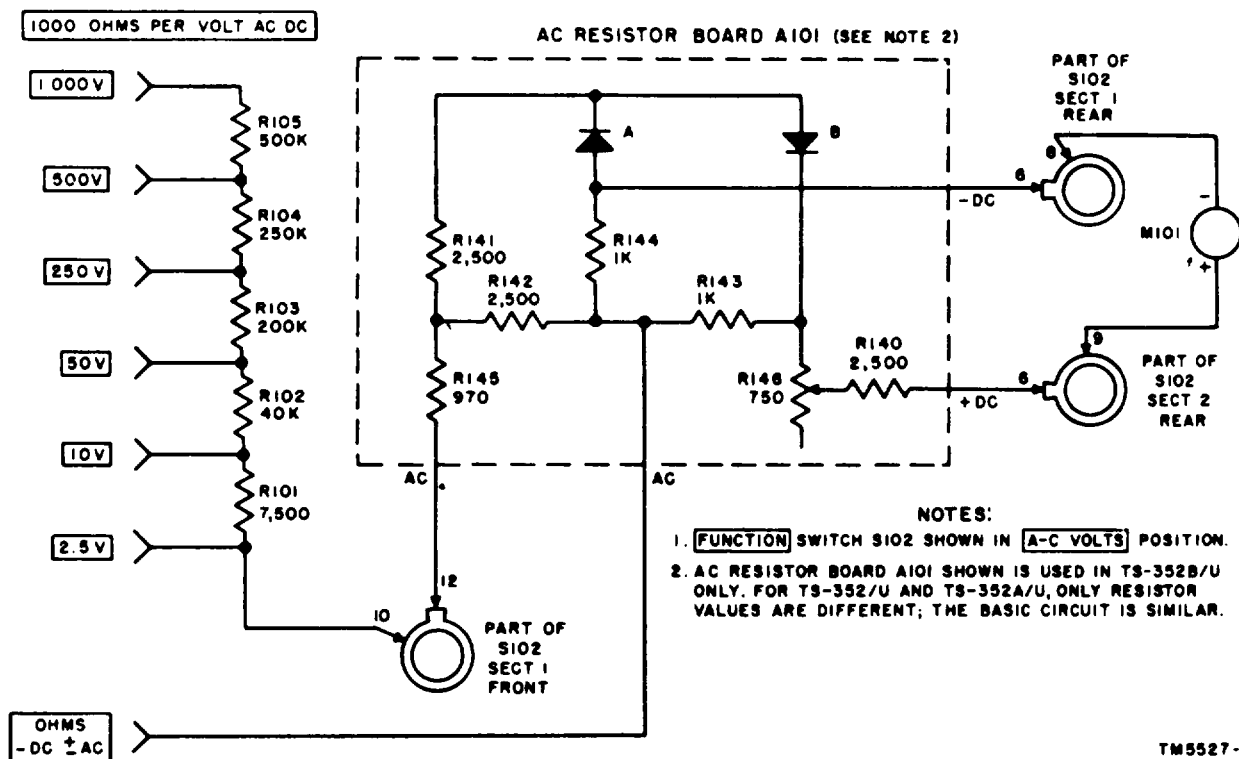

Figure 4-4. Ac voltmeter circuit, simplified schematic diagram.
a. The functioning of the ac voltmeter circuit is similar to that described for the dc voltmeter circuits (paras 4-2 and 4-3), except for the action of the full-wave rectifier (on ac resistor board A101) and its associated resistors. The same series-connected multiplier resistors are used (R101, R102, R103, R104, and R105) as in the 1,000-ohm-per-volt dc voltmeter circuit. However, regardless of the ac voltage applied to the jacks (within the marked values at the appropriate jacks), 2.5-volts ac will appear across the two input leads to the rectifier circuit for full-scale meter deflection (these leads are marked AC on figure 4-4). The functioning of the rectifier action is given in b below.
the incoming ac is negative at the OHMS - DC ±AC jack, rectifier B (fig. 4-4) conducts, and current flows through loading resistor R1.43, through the rectifier, resistors R141 and R145, and back to the other side of the incoming at-voltage source.